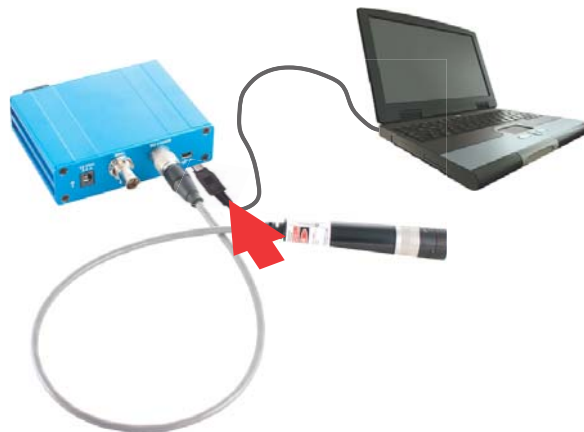

Figure 2-24. Connect USB to PC
4. (Optional) Connect the USB cable from the Remote to a computer, as shown in Figure 2-24.